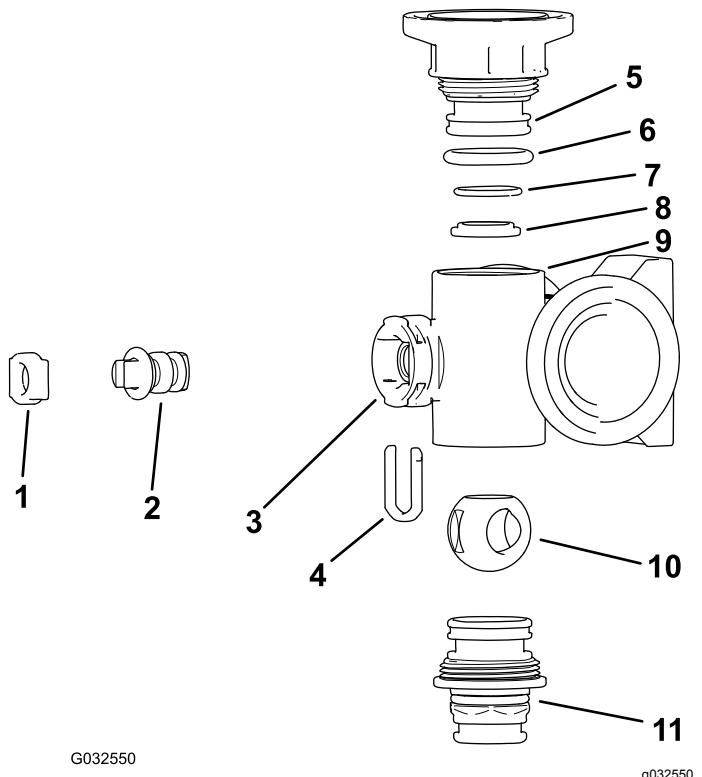
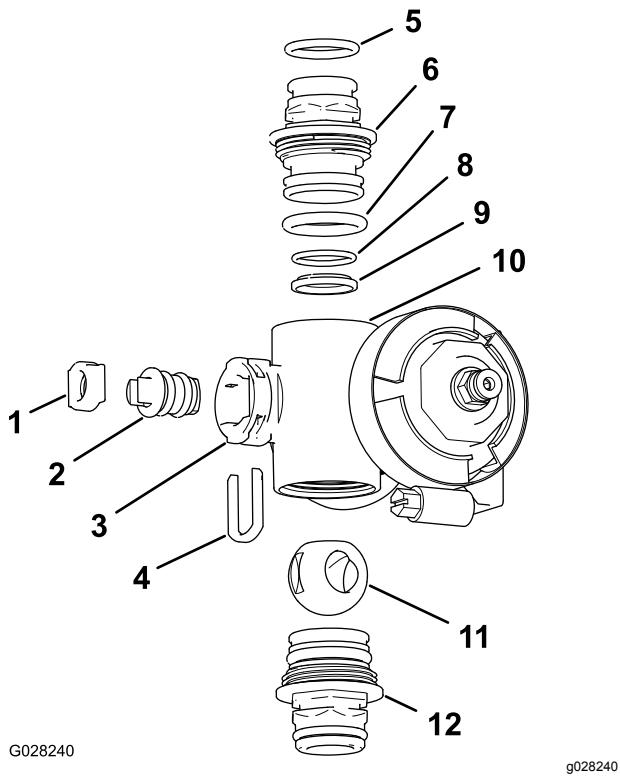

Figure 106
Figure 107
2. Remove the end-cap-fitting assembly and quick connect from each end of the manifold body (Figure 106 and Figure 107).
4. Remove the stem retainer from the slots in the stem port in the manifold (Figure 106 and Figure 107).
5. Remove the stem retainer and valve-stem seat from the manifold (Figure 106 and Figure 107).
6. Reach into the manifold body and remove the valve-stem assembly (Figure 106 and Figure 107).
1. Check the condition of the outlet fitting O-rings (**section-valve manifold only**), end cap O-rings, back seating O-rings, and ball seat for damage or wear (Figure 106 and Figure 107).
2. Apply grease to the valve stem and insert it into the valve-stem seat (Figure 106 and Figure 107).
3. Install the valve stem and seat it into the manifold and secure the stem and seat with the stem retainer (Figure 106 and Figure 107).
4. Ensure that the back seating O-ring and the ball seat are aligned and seated into the end-cap fitting (Figure 106 and Figure 107).
5. Install the end-cap-fitting assembly onto the manifold body until the flange of the end-cap fitting touches the manifold body, then turn the end-cap fitting an additional 1/8 to 1/4 turn (Figure 106 and Figure 107).